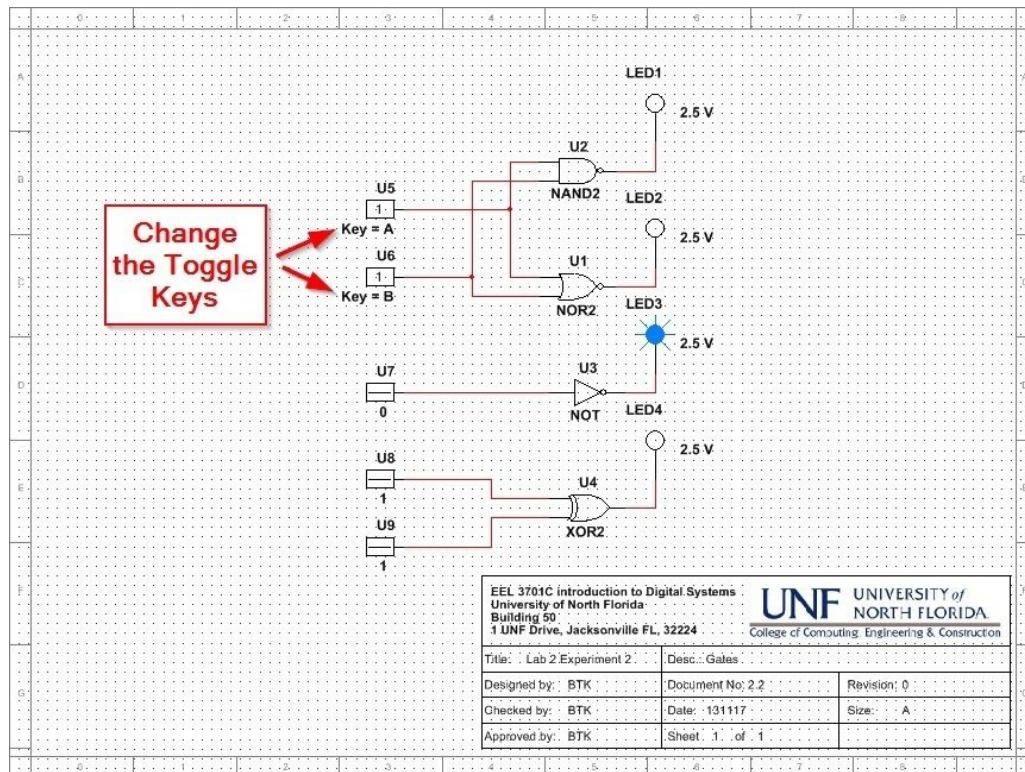

Figure 8. Using the INTERACTIVE_DIGITAL_CONSTANT source.
- 5) Now replace the two DIGITAL_CONSTANT sources for the NAND gate at the top of the schematic with INTERACTIVE_DIGITAL_CONSTANT sources. Change the toggle keys for the two new symbols to A and B as shown in Figure 8.